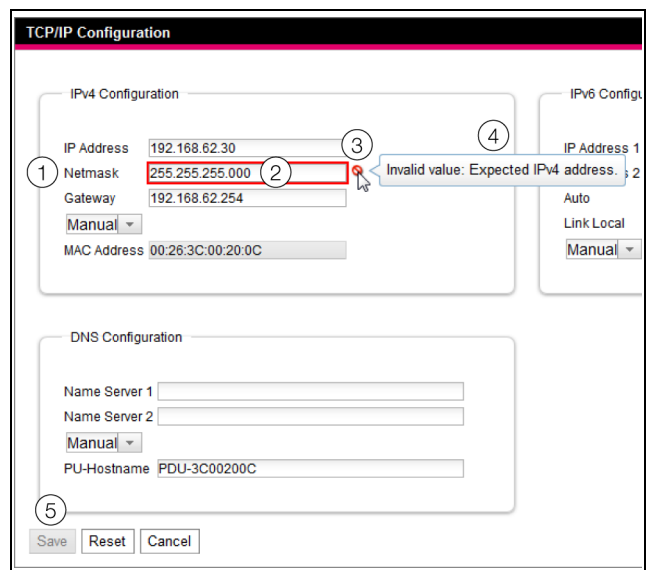

Fig. 25: Display of an incorrect entry
- A red "prohibited symbol" (fig. 25, item 3) appears after the incorrect entry (fig. 25, item 2) in the **Netmask** field (fig. 25, item 1).
- By hovering over the prohibited symbol with the mouse, additional information about the error will appear (fig. 25, item 4).
- The **Save** button is deactivated (fig. 25, item 5), so that the current values cannot be saved.